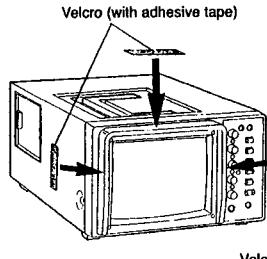

Fig. 1
1. Using a cloth, clean the surfaces of the screen frame shown with the arrows, so that the adhesive tapes can be securely attached. (See Fig. 1.)
2. After removing the protective covers from the adhesive sides of the three pieces of velcro, attach each piece of velcro to the three sections on the screen frame, shown with the arrows. (See Fig. 1.)